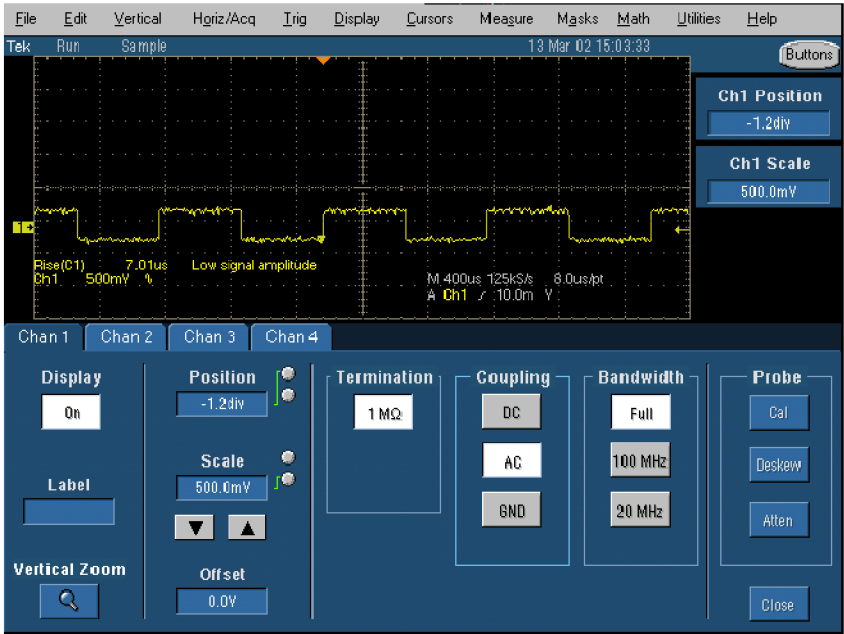

Figure 11: Typical waveform at AC Coupling
7. Set Coupling to AC, and set trigger level to 50%. The resulting waveform should appear as shown. (See Figure 11.)